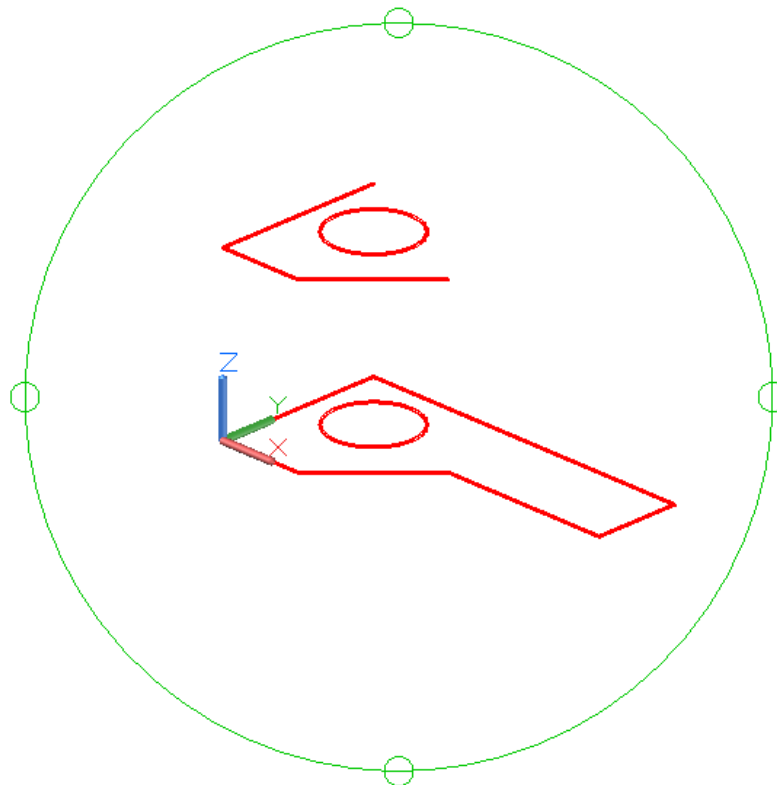

Figure Step 9
Step 9 Using the 3DFORBIT command, orbit the model slightly. (Figure Step 9)